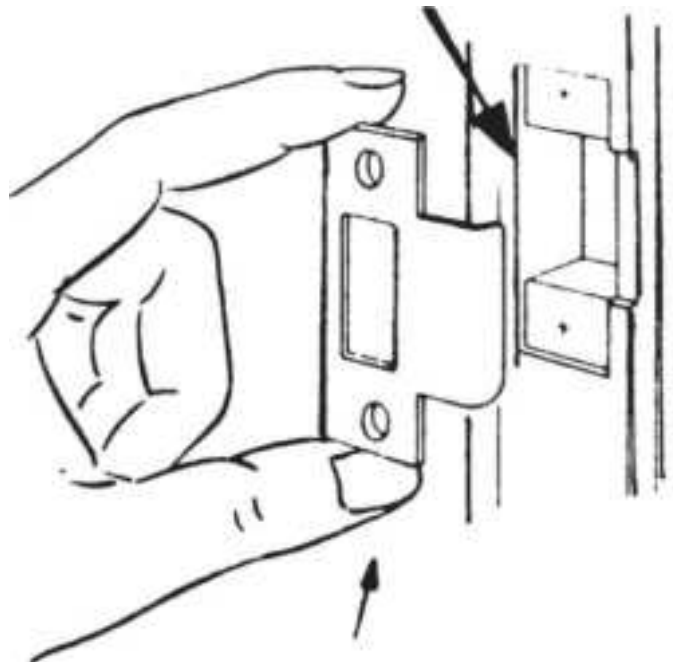

**Figure 19.51** Electrified key-in-knob lock installation, Step 8.
8. Install the strike by making a shallow mortise in the door jamb to align with the latch face and install the strike as in Fig. 19.51.